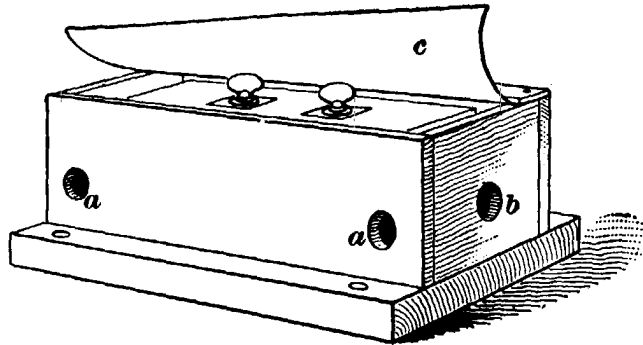
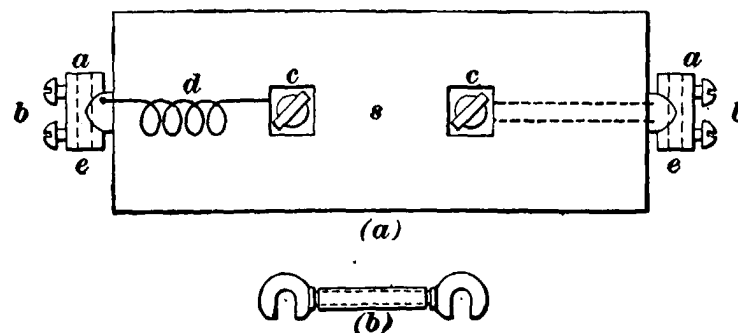

FIG. 22.
FIG. 23.
19. The General Electric Fuse Box.—Figs. 22 and 23 show one form of General Electric fuse box that is very much used. In Fig. 22, a, a are two holes through which the trunk wire passes into and out of the fuse box; on each end of the box is a hole b , through which a screwdriver
may be put to loosen or tighten screws b, b , shown in Fig. 23 (a); c is a rawhide flap that serves as a weather protector. A substantial lid is unnecessary on this fuse box, because the presence of a magnetic blow-out coil d , Fig. 23 (a), allows very little arcing when a fuse blows. Fig. 23 (a) shows the member that fits into the wooden case shown in Fig. 22; a, a are two lugs provided with holes e, e to take the ends of the trunk wire and screws b, b to secure the wire in place; c, c are also two lugs provided with thumbscrews to take such a special fuse wire as is shown in Fig. 23 (b). This special fuse with terminals and made of regular fuse wire is not necessary, as almost any fuse wire can be secured under the thumbscrews, but it is a good thing because it makes sure that in a majority of
cases the car is provided with a fuse of the proper size. On one side, a and c , Fig. 23 (a), are connected directly together, but on the other side they are connected through coil d , which has an iron core so disposed as to throw a strong magnetic field across the space s , where the fuse blows. This fuse box does good work when in good order and will only give trouble when continuous abuse causes the blow-out coil to become short-circuited.